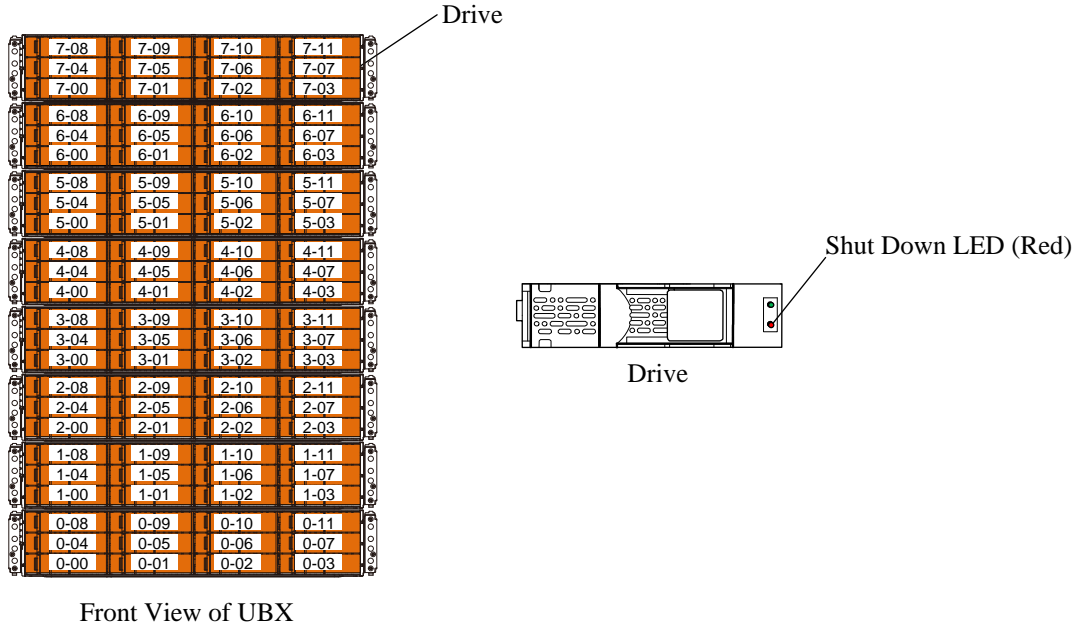

Fig. 3.4.2-1 Checking of Shut Down LED (In case of UBX)
- Check that the Shut Down LED on drive is turned on. Refer to Fig. 3.4.2-1, Fig. 3.4.2-2 or Fig. 3.4.2-3.